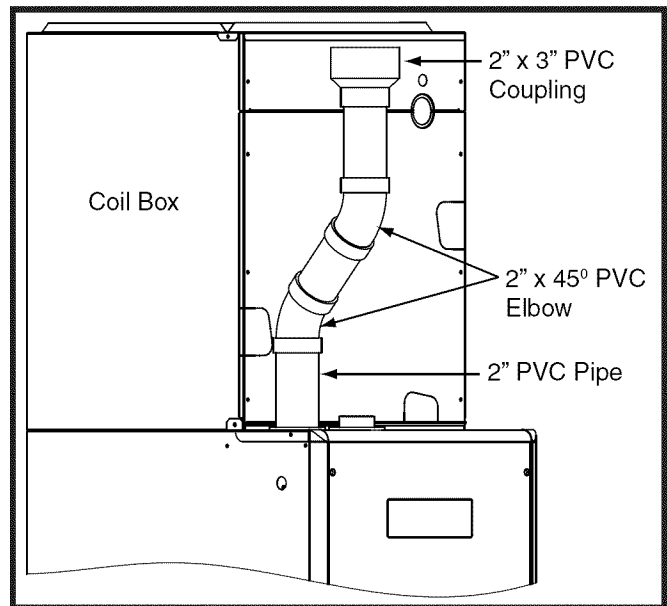

Figure 23. Optional PVC Pipe Installation
- If the size of the PVC flue needs to be increased from 2" to 3", two, 2" x 45° PVC elbows may be used to achieve the clearances needed between the coil box and the 2" x 3" coupling. See Figure 23.